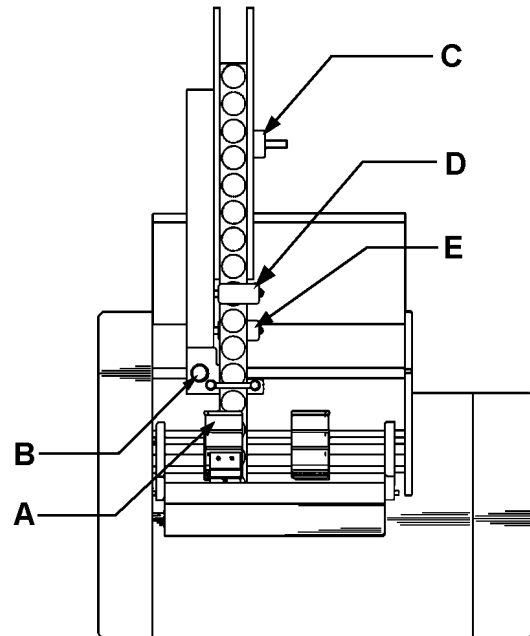

Figure 11
6. Make sure there is a label **[Figure 11-A]** visible by Peeling Mechanism of Labeler **[Figure 11-B]**. Photosensor that senses presence of a label is located at edge of Peeling Mechanism. If Sensor does not see label, any attempt to run Labeler will result in failure to feed media. A flashing light indicates Labeler is out of labels.
4. **To position Reel:** Slide whole Assembly on tie bars until Tracking Guides **[Figure 11-A]** are over desired tabbing area.
5. Lock Reel in place with thumbscrew **[Figure 11-B]**.
6. Remove Reel Support Guide **[Figure 11-C]** by pulling it off Reel Shaft.
8. Route tab supply around Brake Roller **[Figure 11-D]** to Guide Roller **[Figure 11-A]** so that tabs contact Brake Roller while backing paper contacts Guide Roller.
11. With tabs feeding straight through Clamp, move two Tracking Guides **[Figure 11-A]** into contact with backing paper edge.